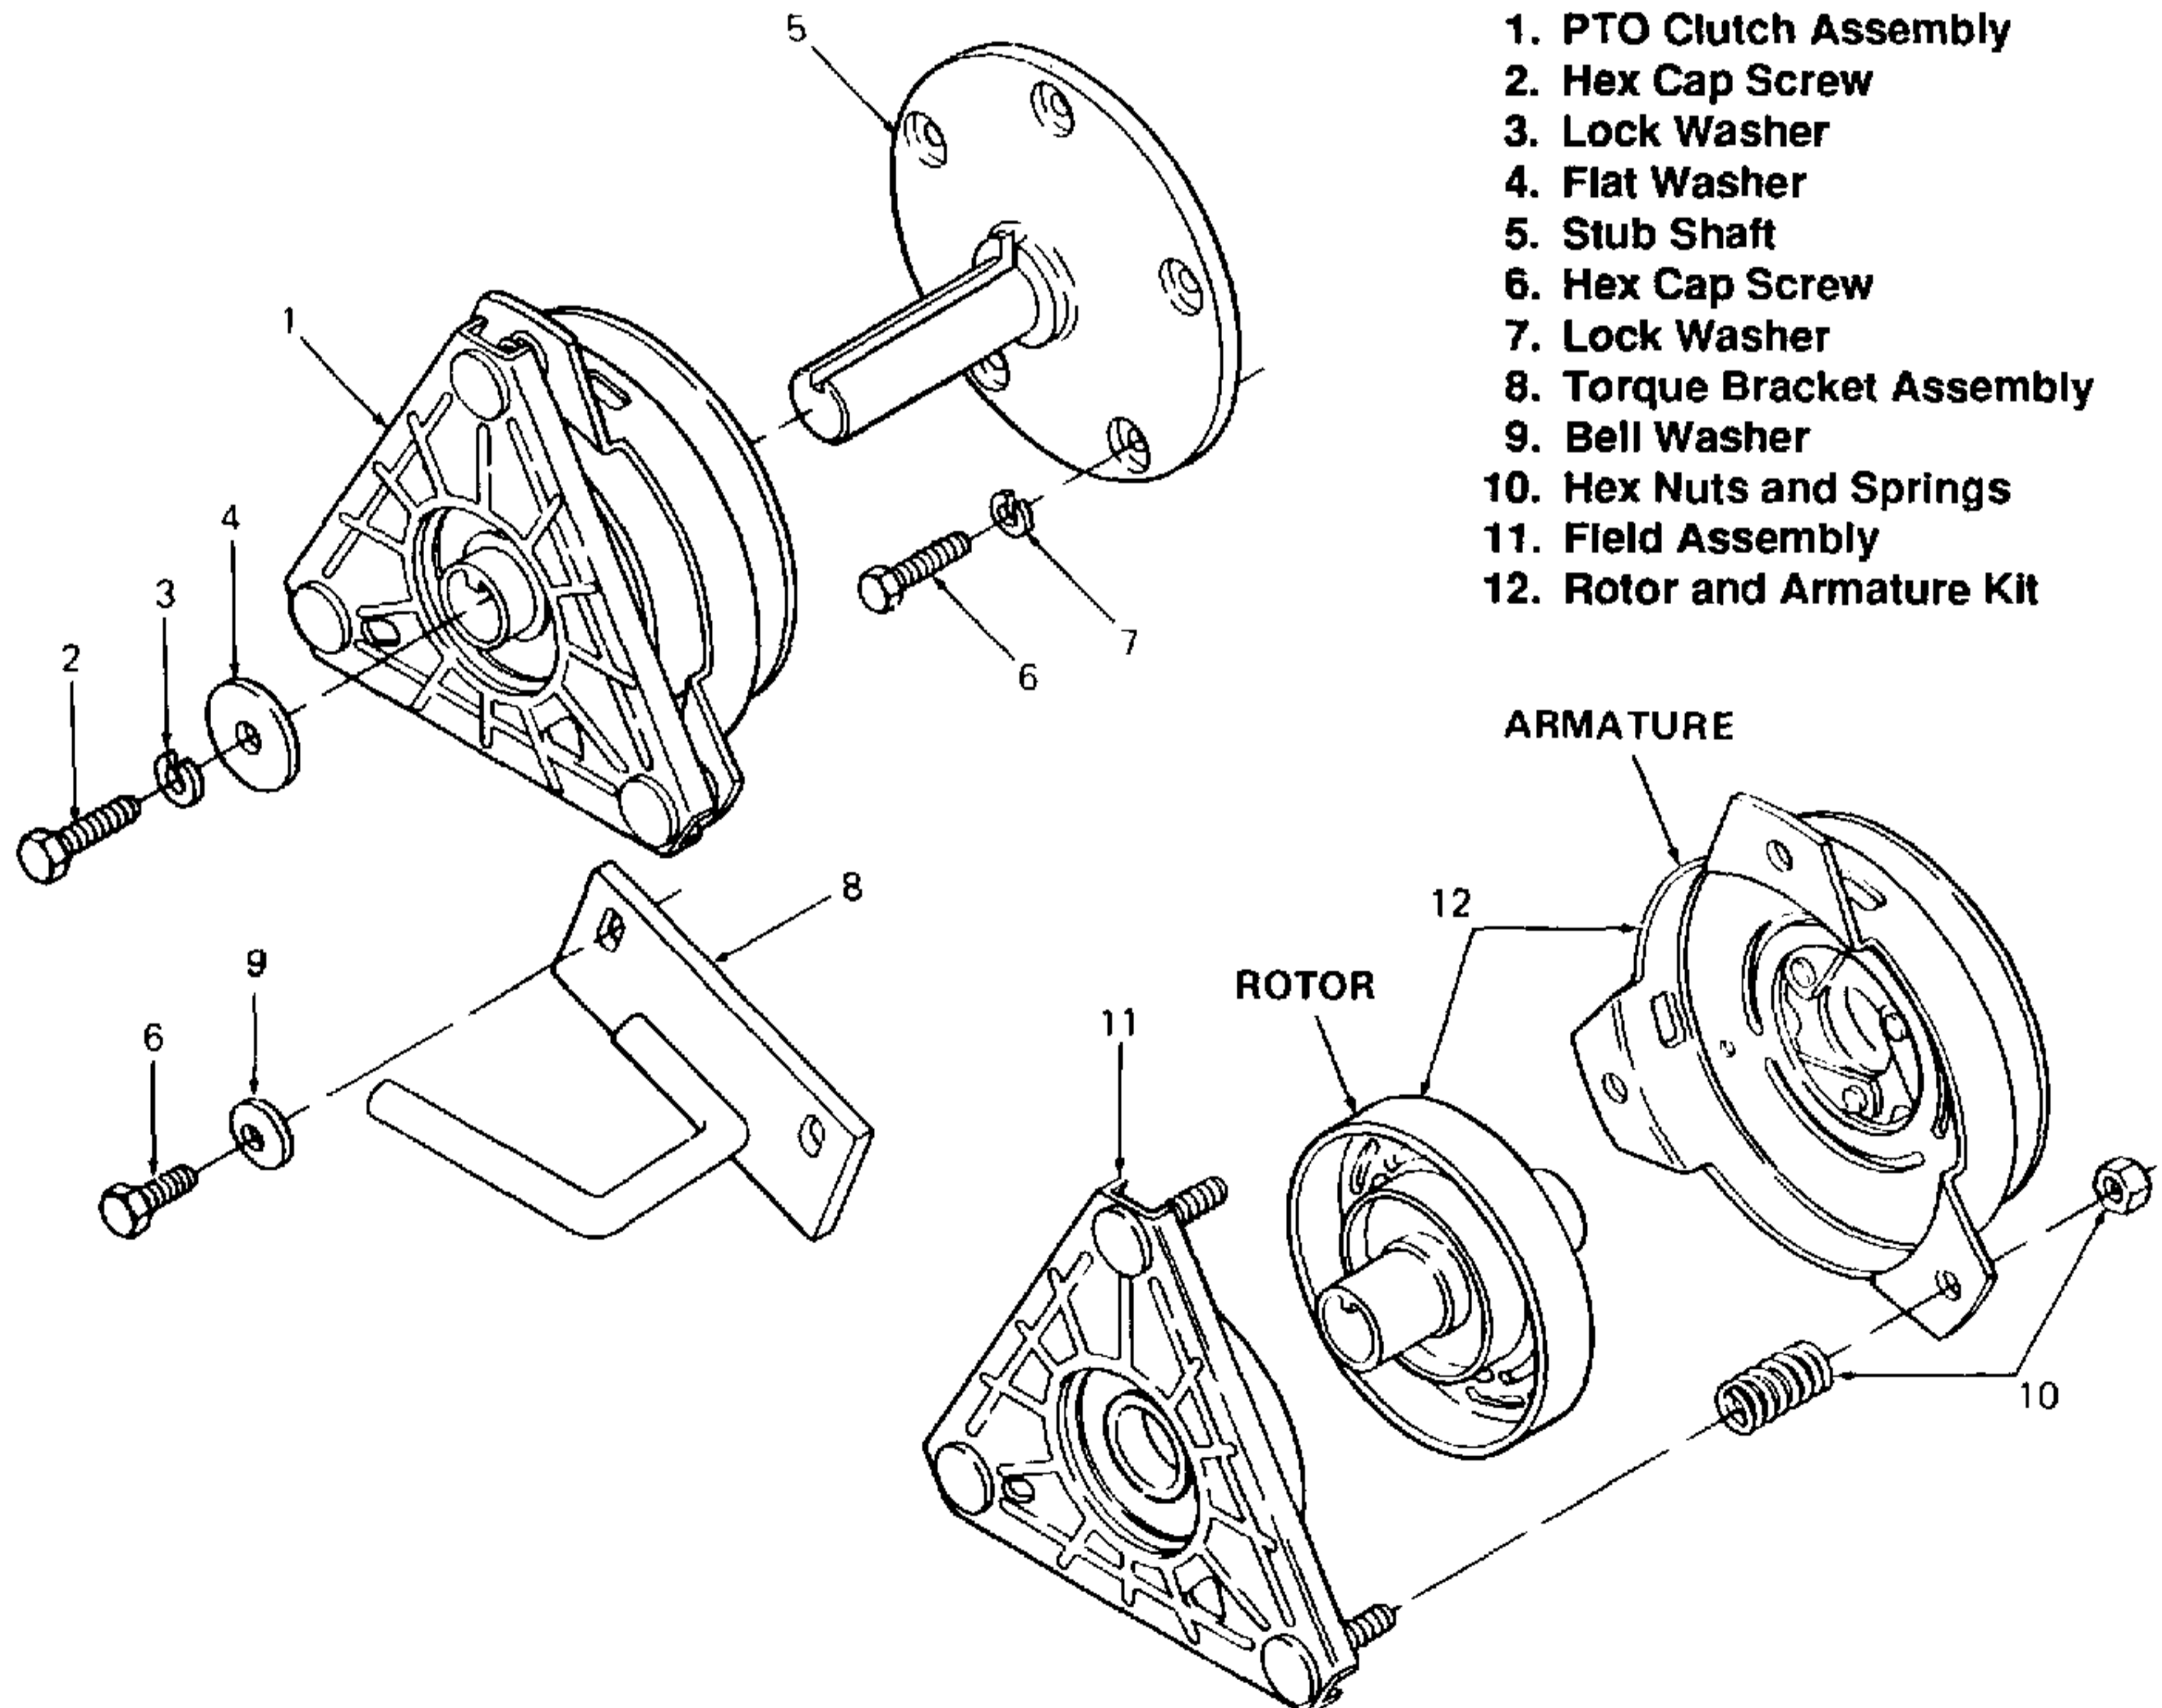

Figure 5-21. PTO Clutch and Clutch Breakdown (Models 1782 and 2182).
3. Remove PTO clutch (1, Figure 5-21) from engine by removing hex cap screw (2), lock washer (3) and flat washer (4).
4. Remove stub shaft (5) by removing hex cap screws (6) and lock washers (7).
5. Remove torque bracket (8) by removing hex cap screws (6) and bell washers (9).